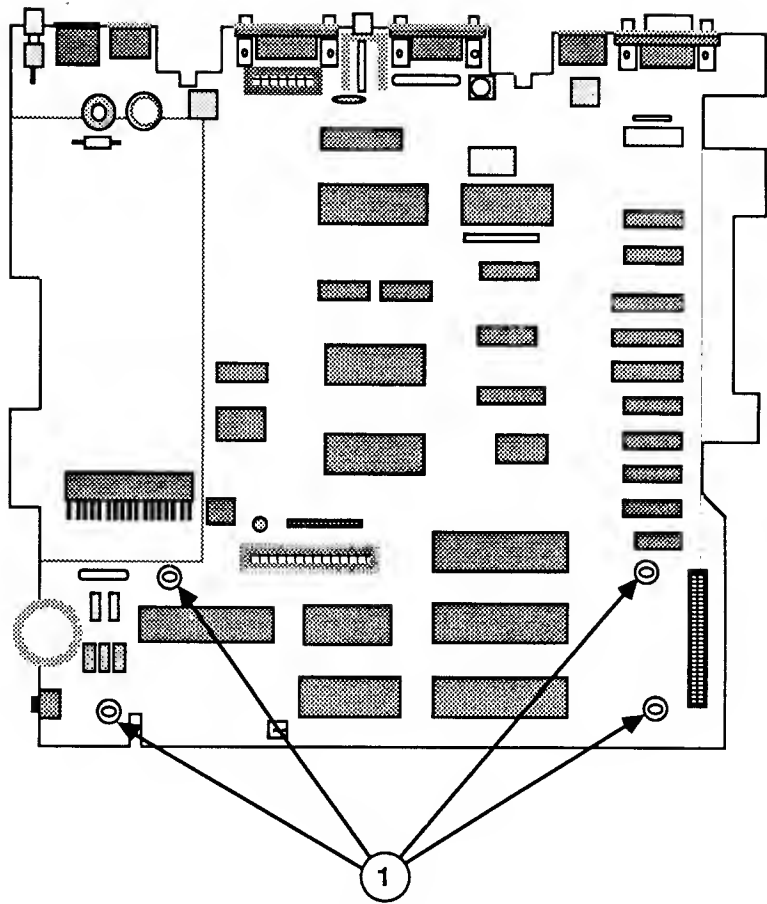

Figure 3
1. Insert the flared-end of each stand-off, from the component (top) side, through the four holes in the logic board and press until you hear a "click". Refer to Figure 3, #1 for stand-off locations.